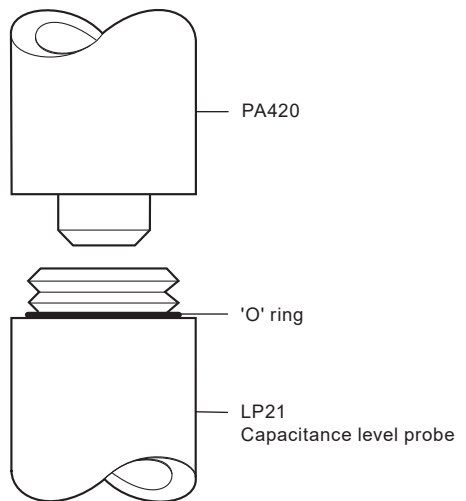

Fig. 2
- An 'O' ring is supplied with both the LP21 and PA420. Ensure only one 'O' ring is fitted between the probe and the PA420 preamplifier (see Figure 2).